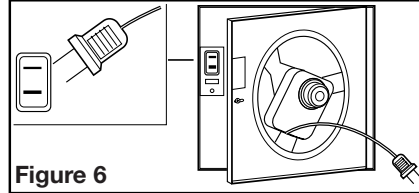

Figure 6
- Reinstall the fan's venturi by holding it at approximately a 45 degree angle, hook the two tabs on the venturi into the slots on the housing and secure in place by tightening the venturi screw. Rotate the blower wheel by hand to ensure it spins freely. Now plug the fan motor into the receptacle (Figure 6).